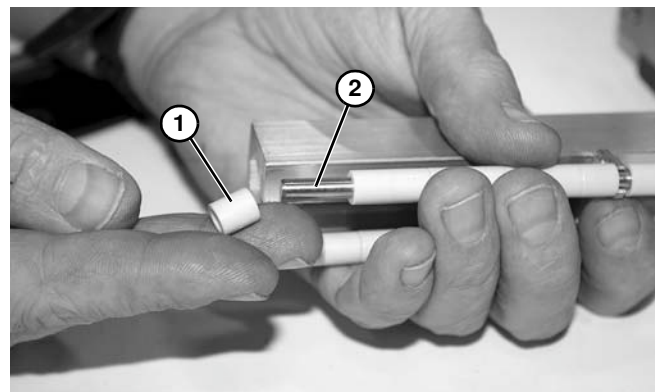

Figure 105
7. Remove and replace bearings (**Figure 105, item 1**) and rods (**Figure 105, item 2**) as necessary.